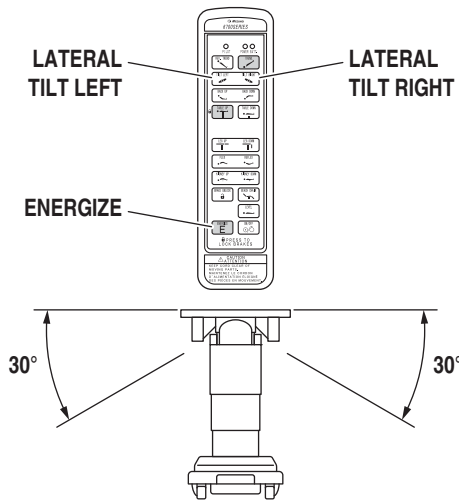

Figure 2-8. Lateral Tilt Positioning
c. Lateral Tilt To achieve lateral tilt right (as viewed from the head end of the table), press the ENERGIZE button and then the TILT RIGHT button (figure 2-8). To achieve lateral tilt left, press the ENERGIZE button and then the TILT LEFT button. Tilt of up to 30° may be obtained if Trendelenburg positioning is less than 20°.